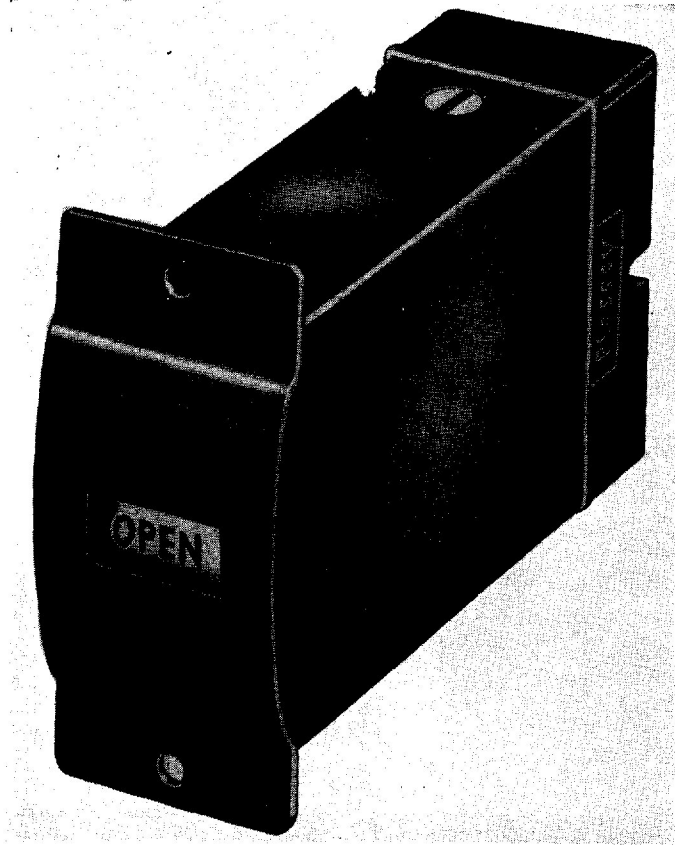

Fig. 1. *General View of rectangular type magnetic Indicator*
1. These magnetic indicators (*fig. 1*) are 3-position types which are used to indicate visually the positions of actuators, valves, flaps, or other moving components remote from the control points. An advantage of this type of remote indication is that a failure in the associated circuit is signalled by the indicator returning to the neutral position.
and the general view in *fig. 1*. The indicator contains two solenoids and a pivoted armature to which is secured the flag; the armature is biased to the central position by means of a pair of centring springs. These components are mounted on an insulated base plate and enclosed by a cover which is secured to the base plate by two screws. The connections from the solenoid coils are soldered to screw terminals in the base.